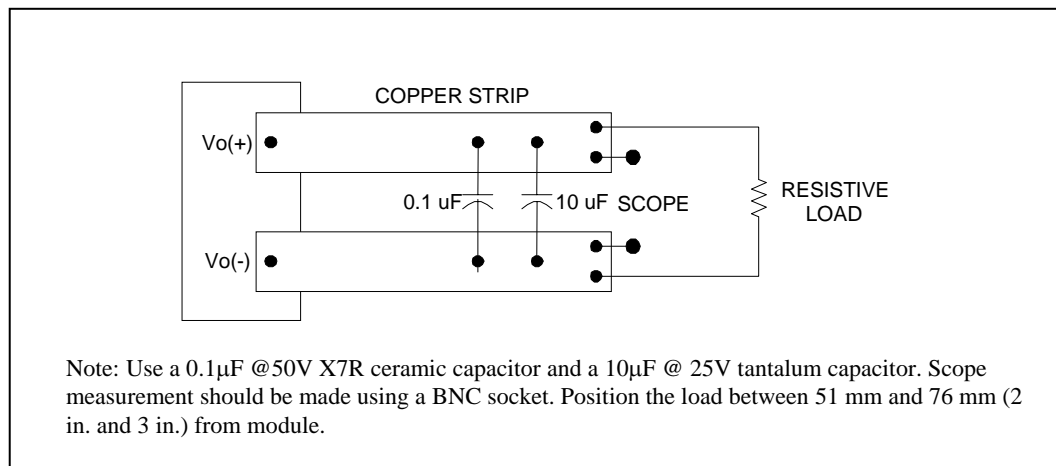

Figure 2. Peak to Peak Output Noise and Ripple Test Measurement Setup.
3. Refer to Figure 2 for the output ripple test setup.